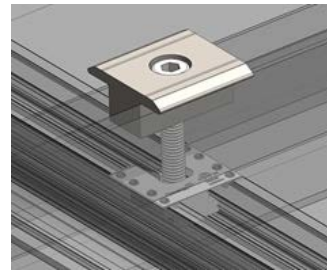

Figure 26
Step 3 Loosely place the next framed PV Module into the other side of the Inter Clamp and Grounding Clip as shown in Figure 26.